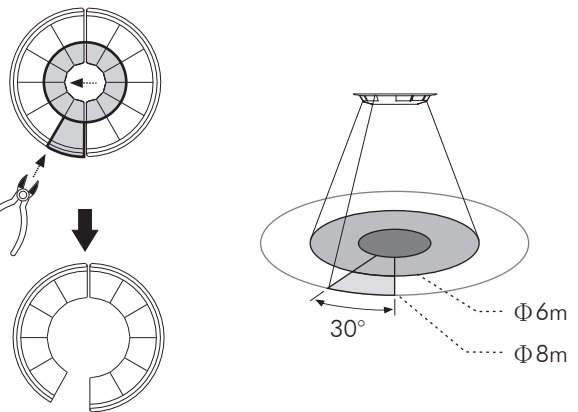

FIG.19
4.2.1 PMSCDD has provided 2 lens shields for masking the undesired detection area. Each lens shield has 2 layers, each layer includes 6 small pieces of shield and each small piece of shield can cover 30° detection area. For example, to install the detector at the height of 2.5m, the detection range can reach up to 2m diameter if the complete lens shields have been used, and up to 6m diameter if only the A layer of lens shield has been used (See FIG.19).
- The shadow part of the lens shield in the FIG.19 is needed to be cut off.